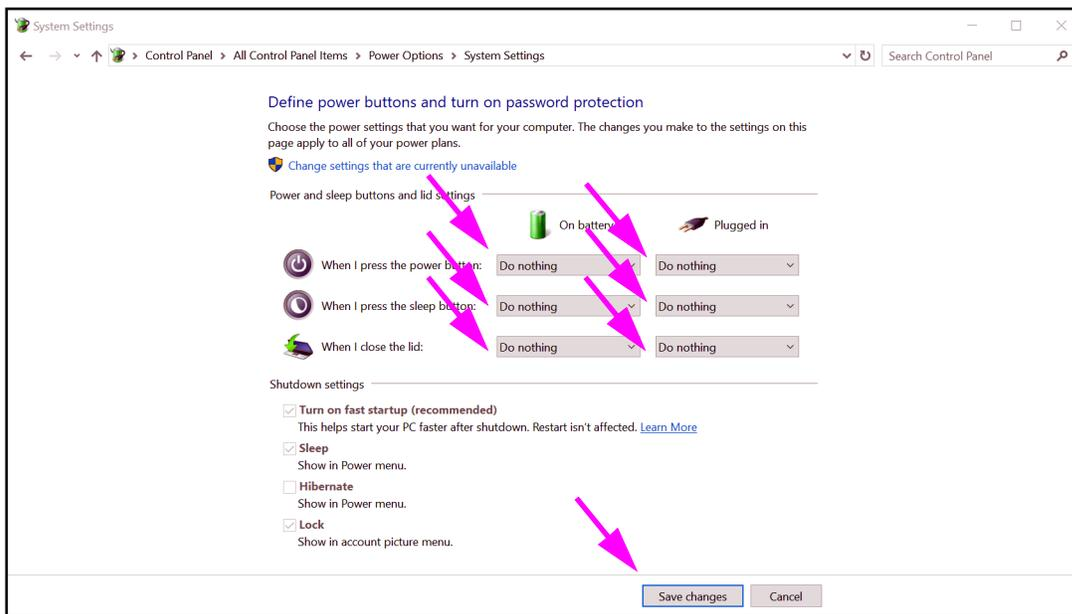

Figure 2-30. System Settings Window
10. **Laptops Only:** On the Power Options window, click the **Choose what closing the lid does** entry. The System Settings window appears (see Figure 2-30). Set all settings to **Do nothing** and click **Save Changes**.